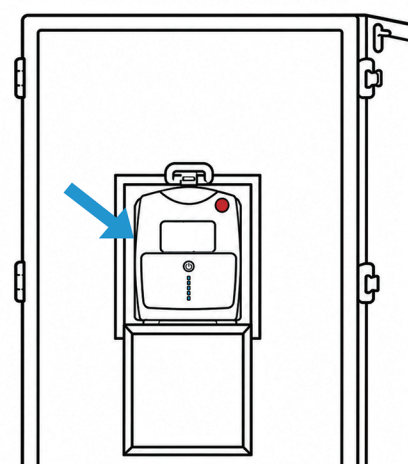

Figure 2
1. Open the small door on the rear cover of the flight case. Press and hold the power button on the robot's back for 5 seconds, then wait until the power indicators remain steadily lit (Figure 2)